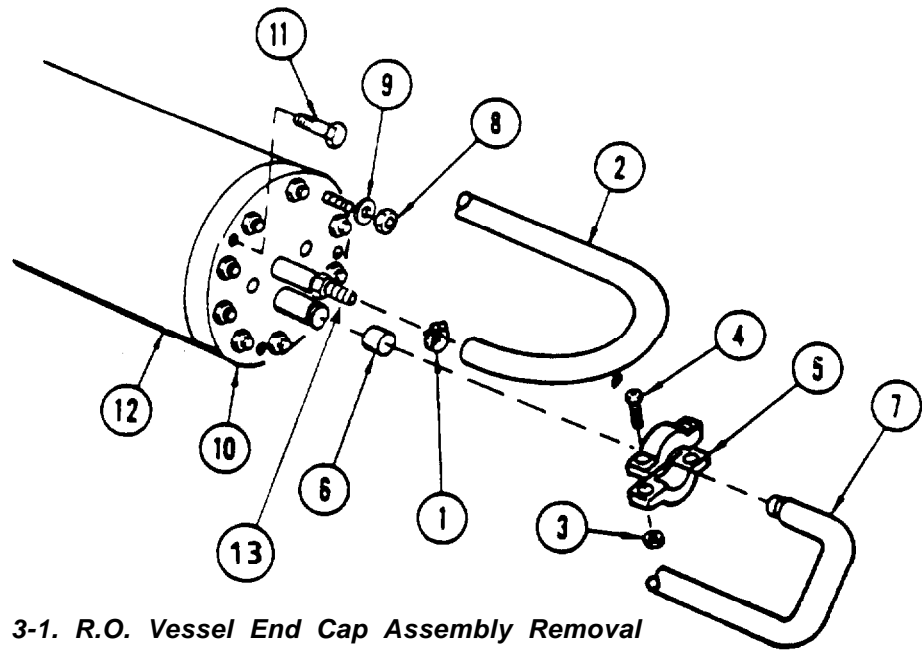

Figure 3-1. R.O. Vessel End Cap Assembly Removal
c. End Cap Assembly (Refer to fig. 3-1).
- (1) Loosen hose clamp (1) and remove tubing (2) from end cap (10).
- (2) Remove nut (3), bolt (4), clamp (5), and bushing (6) from elbow (7).
- (3) Swing elbow (7) away from end cap (10).
- (4) Remove nuts (8) and washers (9) from end cap (10).